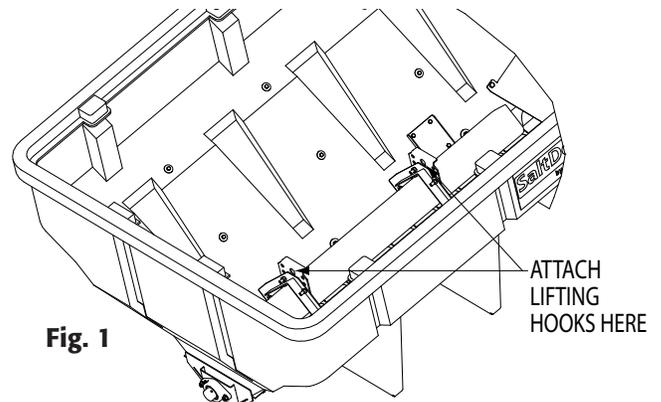

Fig. 1
- C.** Next, set the spreader in the truck body. Use openings in both inverted vee brackets to lift the spreader (Fig.1).